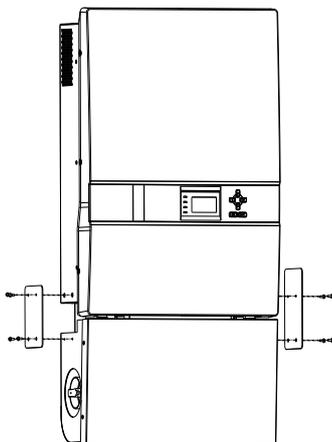

Figure 3-8 Securing panels on both sides
- (f) Put the two removed panels back and secure them with 4 M4*12 bolts on each side, as shown in Figure 3-8.